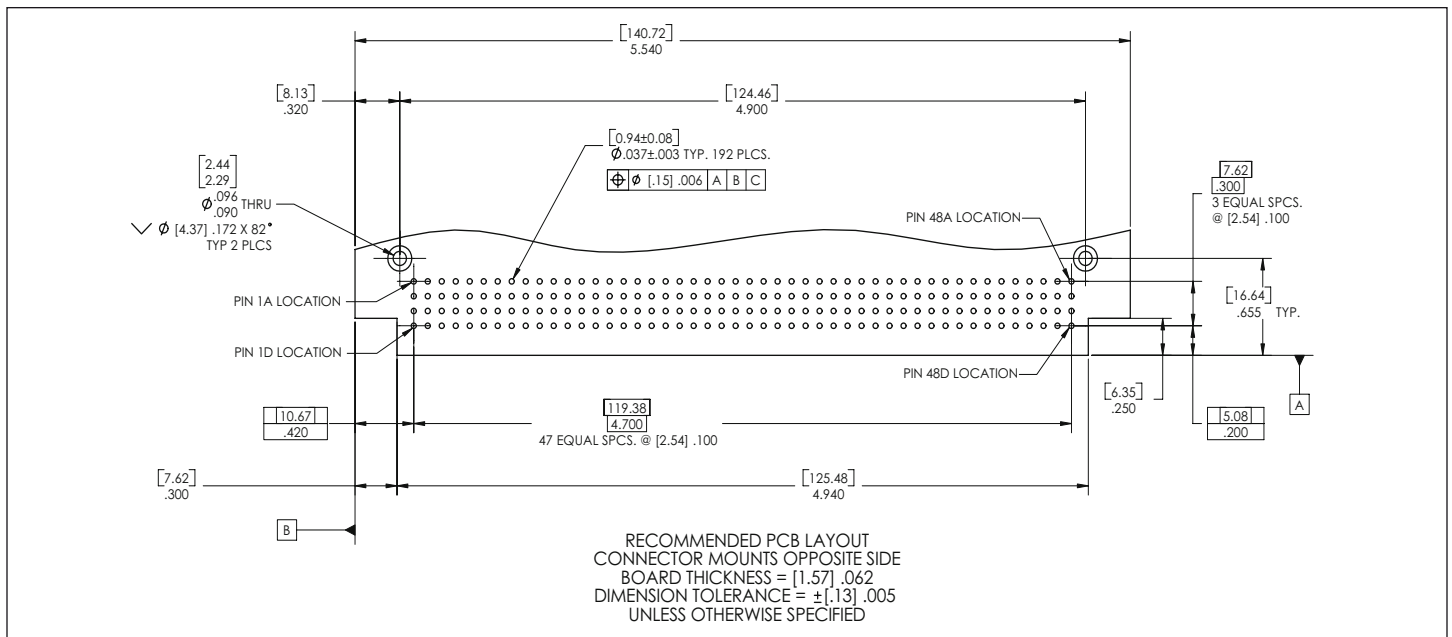

Figure 14-A.
1. Solder header to PCB (IPC-A-610 standard recommended for PCB design). PCB must be manufactured with header installation area complying with recommended PCB layout as shown in **Figure 14-A**.